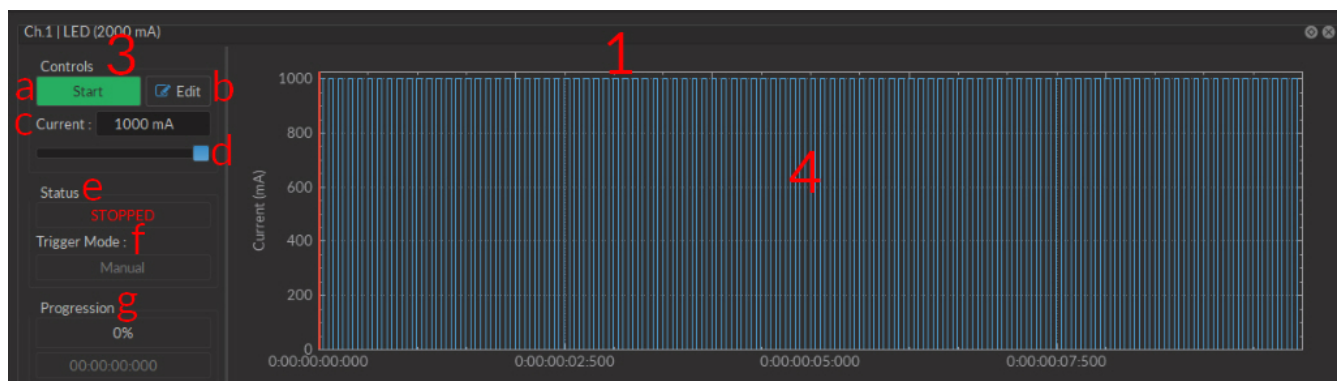

Figure 4.14: Experiment View, Light Source Channel
1. The **Light Source Channel** box (Fig. 4.14) contains all elements related to a single light source channel.